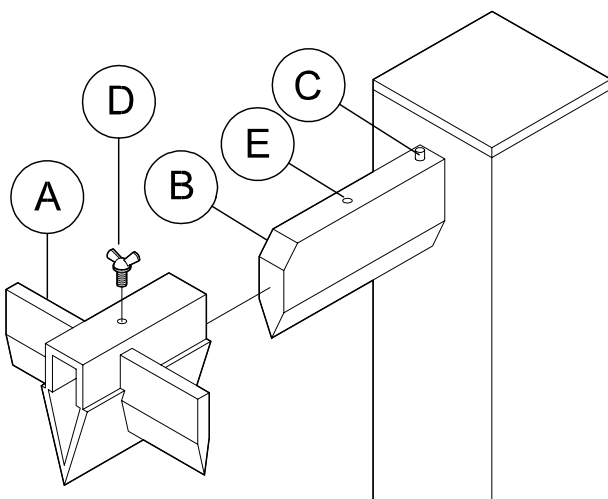
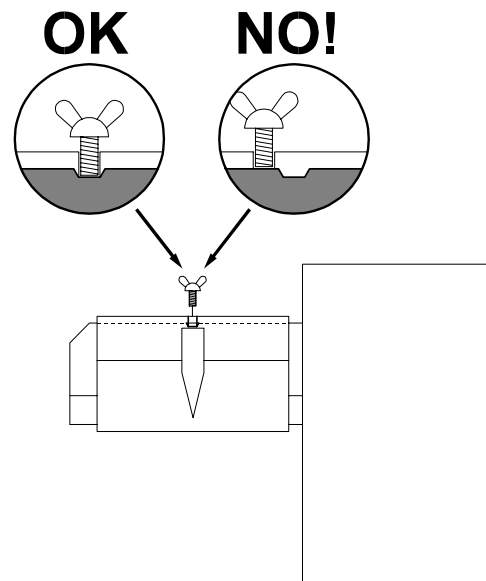

Fig.16 Assembly of the 4-way wedge
Fig.17 Engagement of the lock screw
The SPV26 model vertical log splitter can be equipped on request with a 4-way wedge to split a trunk into four logs with a single stroke. The 4-way wedge (A in fig. 16) must be assembled directly on the standard 2-way wedge (B). Position the 4-way wedge so that it is in contact with pin (C) and fasten it in place by tightening the butterfly screw (D) which must engage in hole (E) in the 2-way wedge (fig. 17). This wedge is used in the same way as the 2-way wedge taking care, however, not to split very hard wood or wood with a large number of knots as the use of 2 wedges instead of 1 causes greater stress on the wedge.